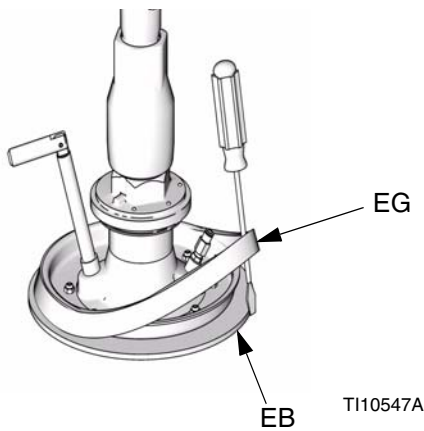

FIG. 13: Installing Spacer
2. Working from the top, use screwdriver to position spacer (EG) between flange and wipers (EB). See FIG. 13.